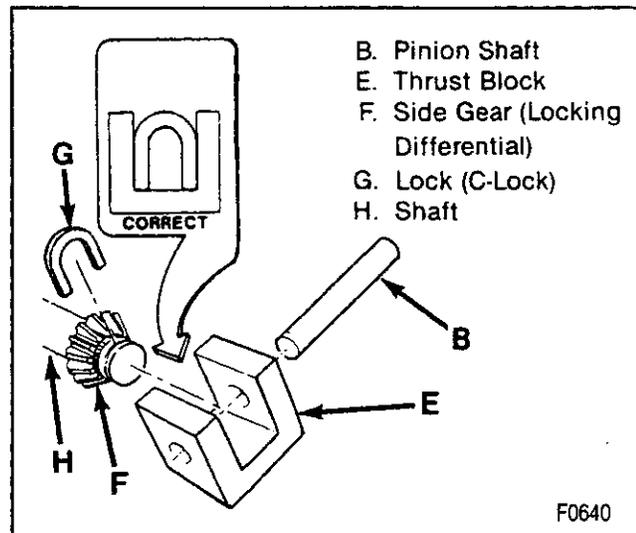

Figure 9—Aligning the Lock
- 4. Screw (A).
- 5. Pinion shaft (B).
- With a locking differential, remove the shaft (B) part way, and rotate the case until the pinion shaft touches the housing.
- 6. Lock (figure 9).
- Slide the axle shaft into place allowing the splines to engage the differential side gear (F) (figure 9).
- B. Place the lock in the position shown in figure 9. Pull the shaft flange outward to seat the lock in the differential side gear.